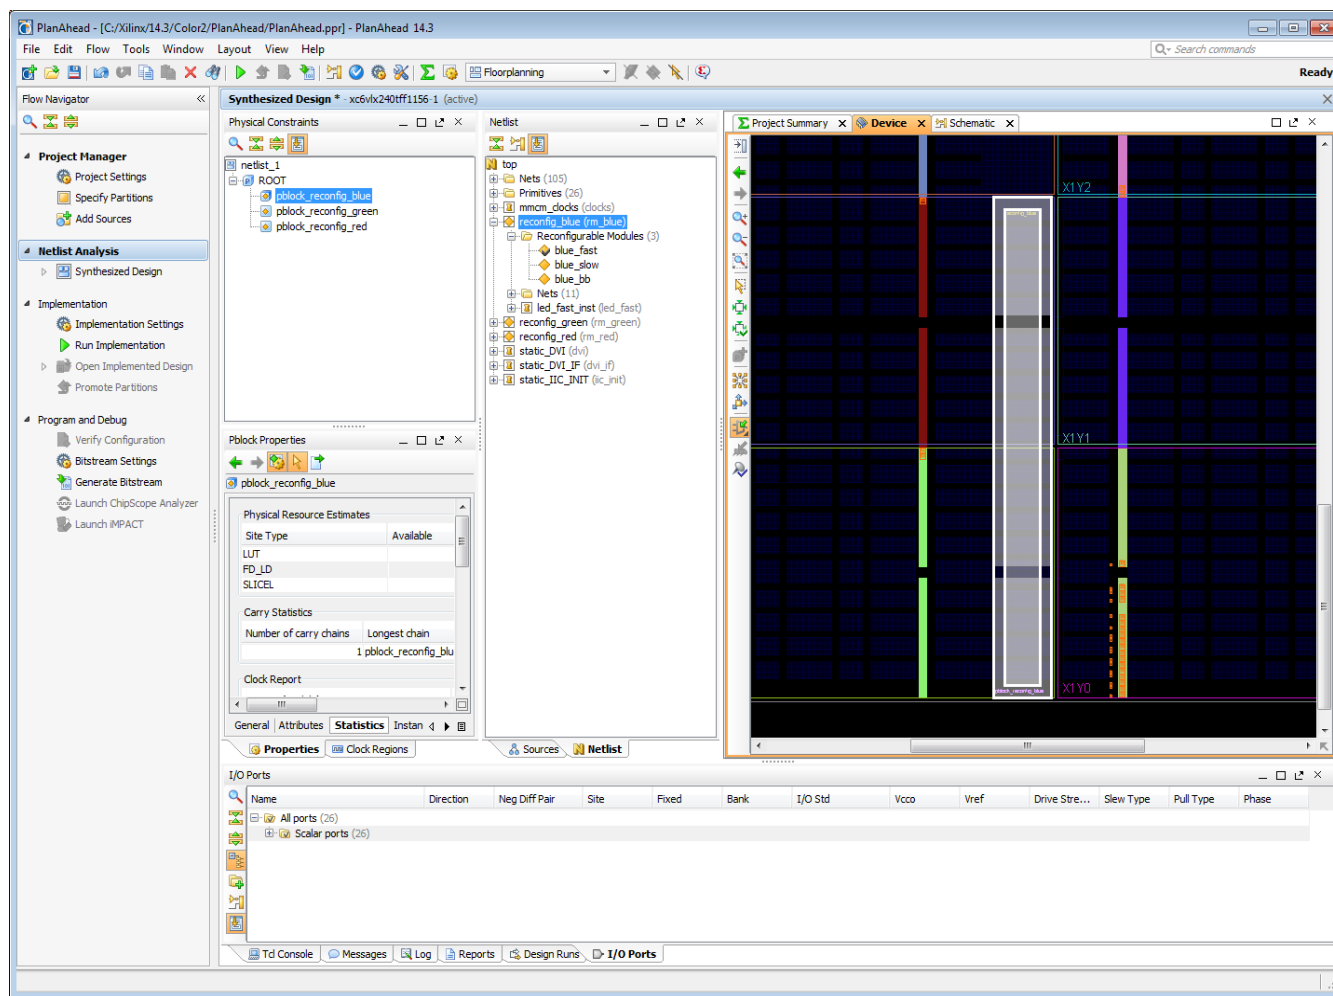

Figure 4-15: Drawing a Pblock for a Reconfigurable Partition
1. Select the Pblock to be defined in the Physical Constraints pane to enable this command as shown in Figure 4-15.